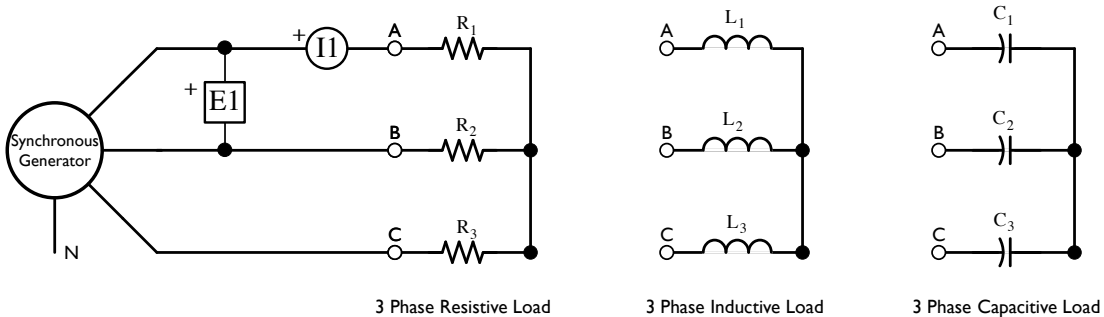

Figure 5.6: Synchronous Generator under Load
- 25. Remove resistor  $R_1$  from the field circuit, and add a three-phase y-connected resistive load and ammeter to the output of the generator as shown in Figure 5.6.